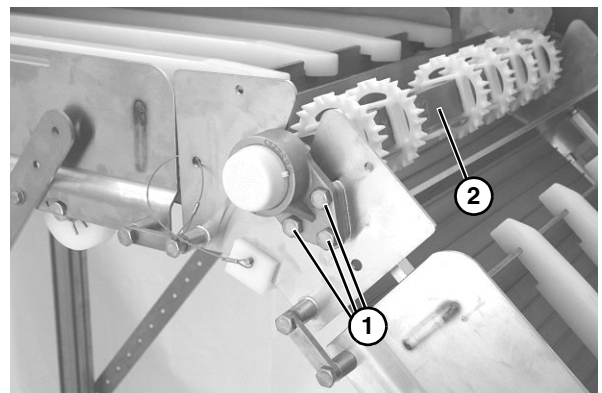

Figure 77
1. Remove three bolts (**Figure 77, item 1**) on each side, and remove spindle assembly (**Figure 77, item 2**) from knuckle.